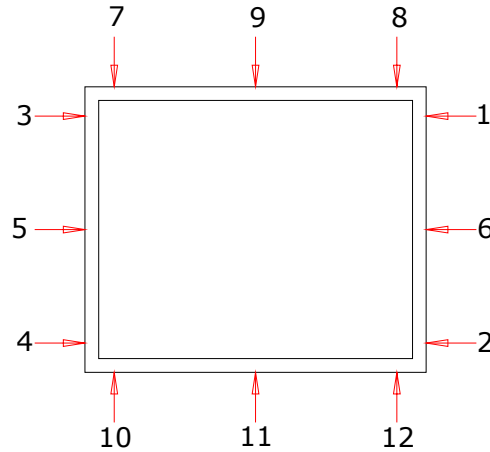

Figure 4
3. Level the right side of frame and drill through the wall fixing aperture for upper dowel no.1 (Figure 4) at minimum to the depth of 80 mm (in case of bar). Fix dowel in the aperture through the jamb hole, fixing the dowel beforehand with screw end. Then, using the chuck key, turn the screw into such depth that gap between construction aperture and jamb would be equal on both sides. In case of bar knock the steel bar in the aperture. Then prepare a block of non-flammable material (e.g. gypsum, steel) with thickness 10 mm, width 45 mm and length maximum 100 mm and place it between jamb and wall against fixing screw. Then tighten the screw. Do the same with lower aperture of the right side (2) and upper left fixing apertures (3) and (4). Check vertical position of lateral surfaces of wall with level.